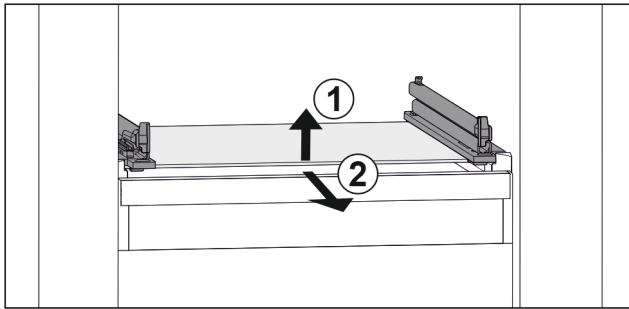

Fig. 34 Example illustration of glass shelf
- ▶ Lift glass shelf at the front. Fig. 34 (1)
- ▶ Take out glass shelf to the front. Fig. 34 (2)